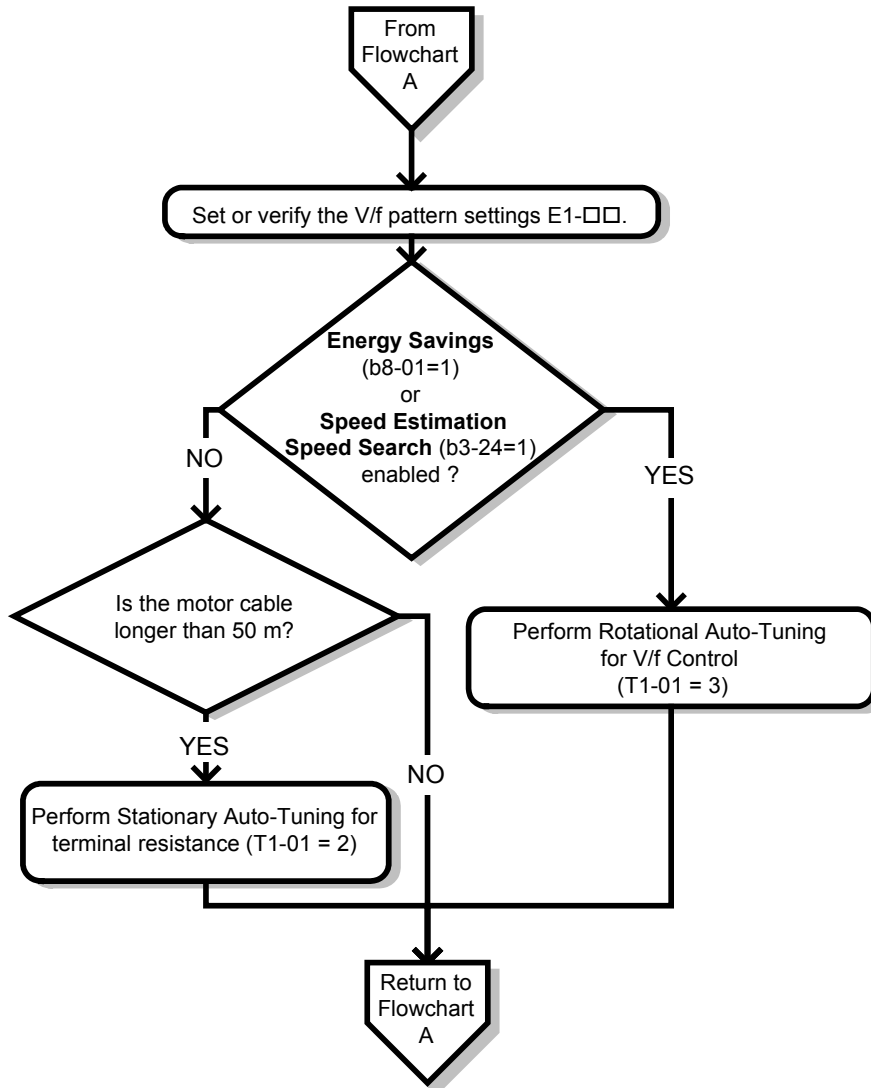

Figure 4.7 Simple Motor Set-Up with Energy Savings or Speed Search Using V/f Mode
*Figure 4.7*, Flowchart A1, describes simple motor setup for V/f control. V/f Motor Control is suited for the most basic applications such as fans or pumps. This procedure illustrates using Energy Savings and Speed Estimation Speed Search. V/f control can be used where rotational auto-tuning cannot be performed.